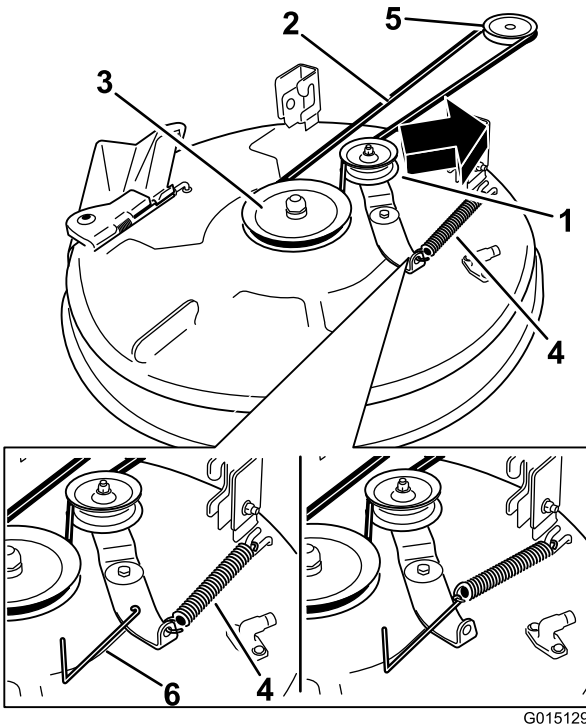

Figure 55
4. Using a spring-removal tool (Toro part no. 92-5771), remove the idler spring from the deck hook to remove tension on the idler pulley, and roll the belt off of the pulleys (Figure 55).
5. Route the new belt around the engine pulley and mower pulleys (Figure 55).
6. Using a spring removal tool (Toro part no. 92-5771), install the idler spring over the deck hook and placing tension on the idler pulley and the mower belt (Figure 55).